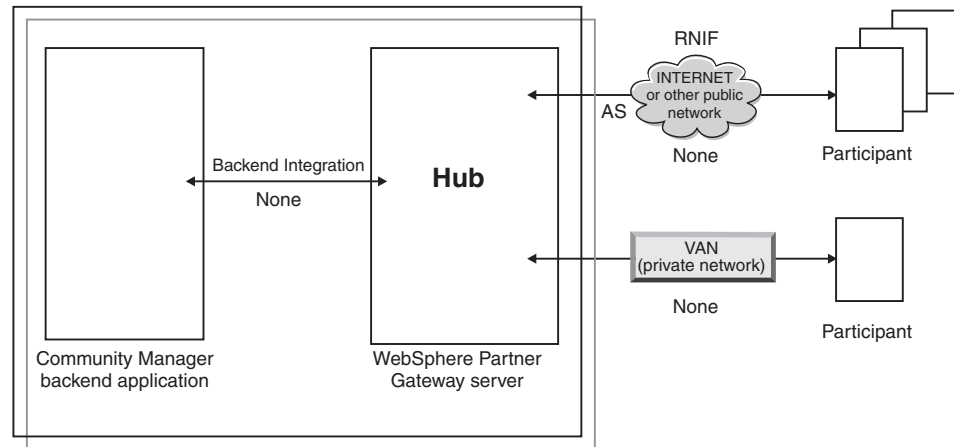

Figure 3. Document packaging types
Figure 3 shows you the packaging types that can be set for documents exchanged between the hub and a community participant and between the hub and a back-end application.
**Backend Integration:** As shown in Figure 3, Backend Integration is available only between the hub and the back-end application. When you specify Backend Integration packaging, documents sent by the hub to the back-end system have special header information added. Similarly, when a back-end application sends documents with a packaging of Backend Integration to the hub, it must add header information. The Backend Integration package, and the requirements for the header information, are described in the *Enterprise Integration Guide*.